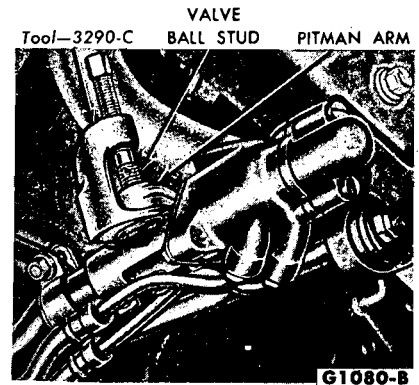

FIG. 7—Control Valve Ball Stud Removal
5. Using the tool shown in Fig. 7, remove the ball stud from the sector shaft arm.